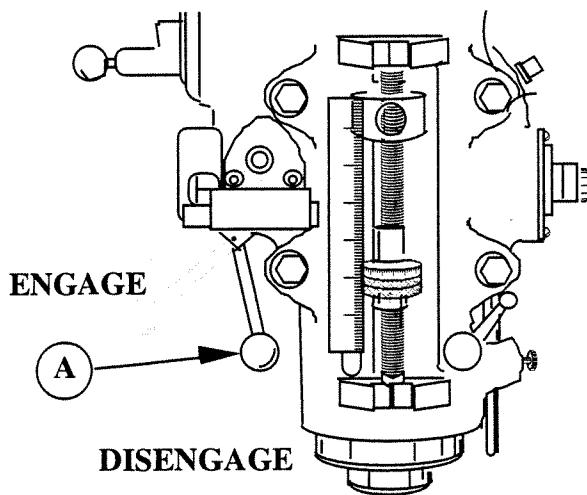

Figure 8-8. Quill, Spindle, and Quill Lock
8.10 QUILL (Figure 8-8)
8.11 SPINDLE (Figure 8-8)
8.12 QUILL LOCK (Figure 8-8)